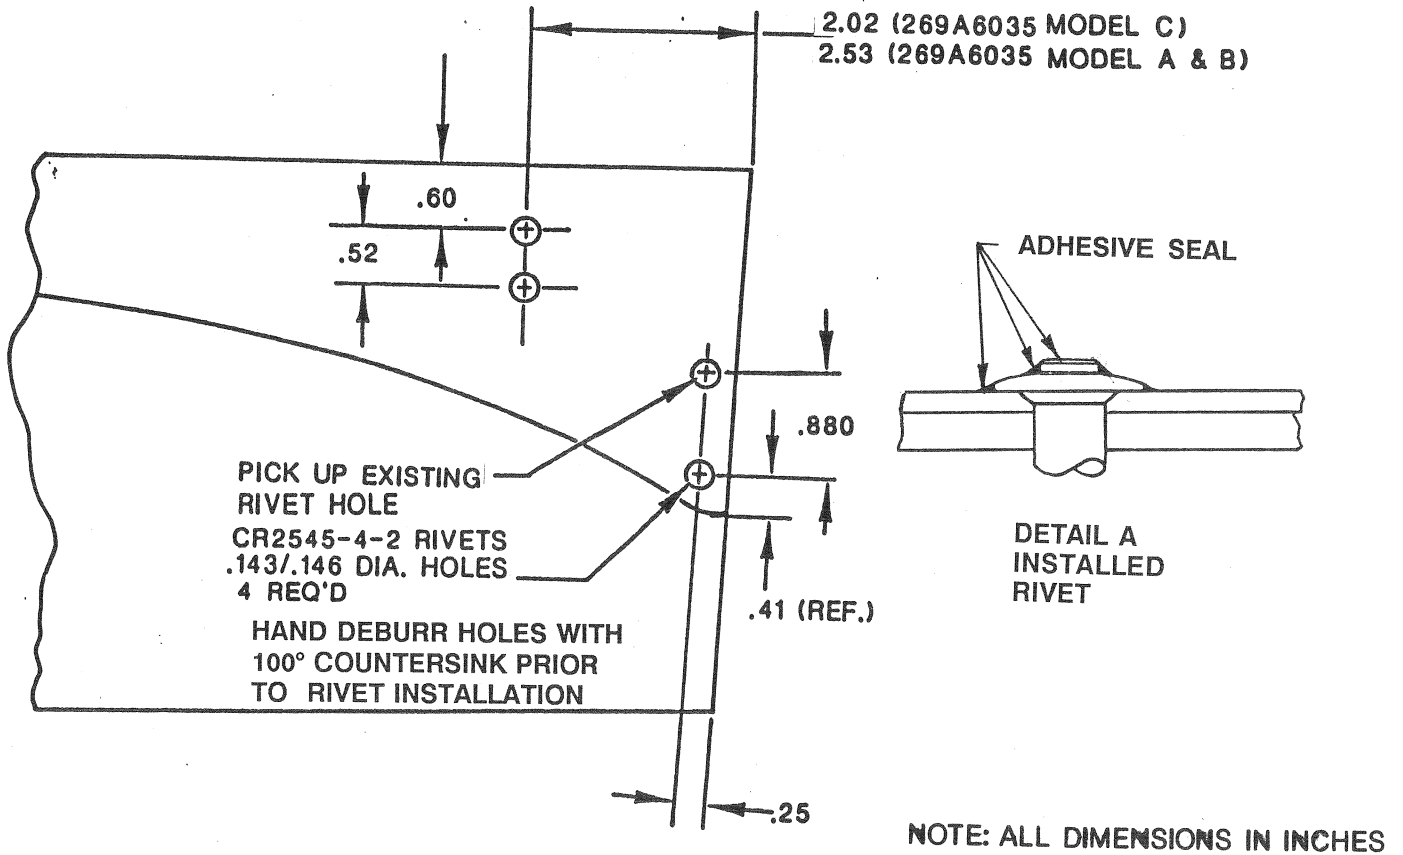

FIGURE 1. ABRASION STRIP RIVET HOLE LOCATION
- c. Using a No. 27 Cobalt drill, locate and drill four rivet holes as shown on Figure 1.
- (1) Carefully grind off locking collar and upper portion of rivet stem.
- (2) Using a drill stop, drill through rivet stem using care to prevent hole enlargement.
- (3) Push remaining rivet stem (with sheer ring) from hole, and remove from spar.
- (4) Inspect hole in spar. If defective, consult SAC.
- (5) Return to step d. above and install new rivet(s).
- h. Coat the exposed rivet heads with epoxy adhesive. Ensure that stems and rivet head edges are sealed, but do NOT apply excessive adhesive. (See Detail A, Figure 1.) Also ensure that adhesive is smooth without voids.